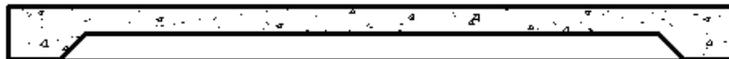

Figure 7–51
15. Close the dialog boxes to return to the view. The materials now match and the slab and slab edge display joined, as shown in Figure 7–51.